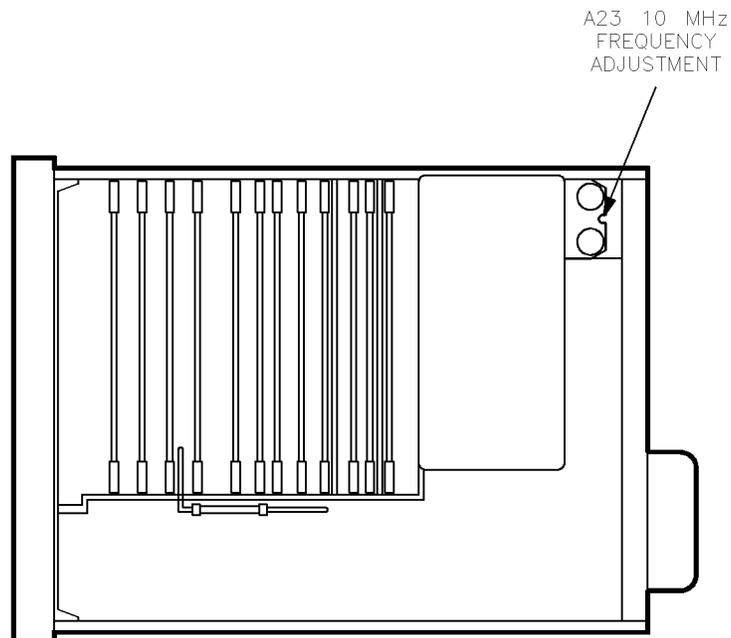

Figure 3-2. 10 MHz Standard Adjustment Location
4. Using a non-metallic tool, adjust the A23 10 MHz standard (see Figure 3-2) for minimum horizontal movement of the oscilloscope waveform.